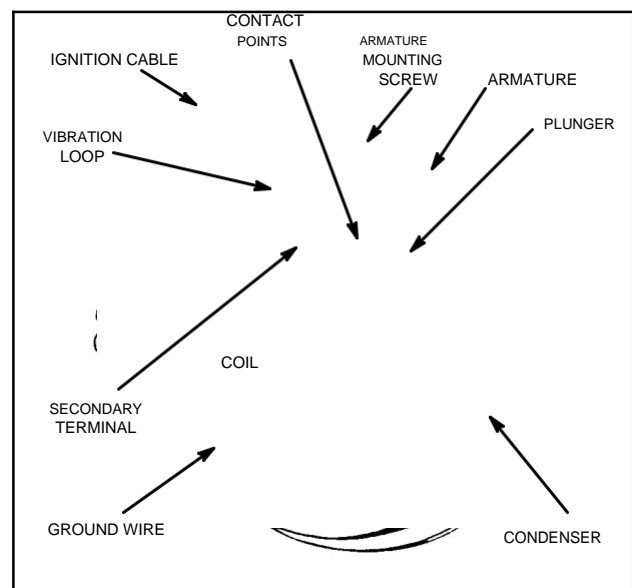

Fig. 18 – REPLACING ARMATURE
Remove armature wire from breaker spring, and ignition cable from secondary terminal in coil. Unscrew the two (2) armature mounting screws and pry armature loose with a screwdriver. Mount new armature in same position as the old one and tighten in place with two (2) mounting screws. Fasten armature wire to breaker point. Push end of ignition cable through terminal on coil and bend wire firmly with needle nose pliers, Fig. 18.